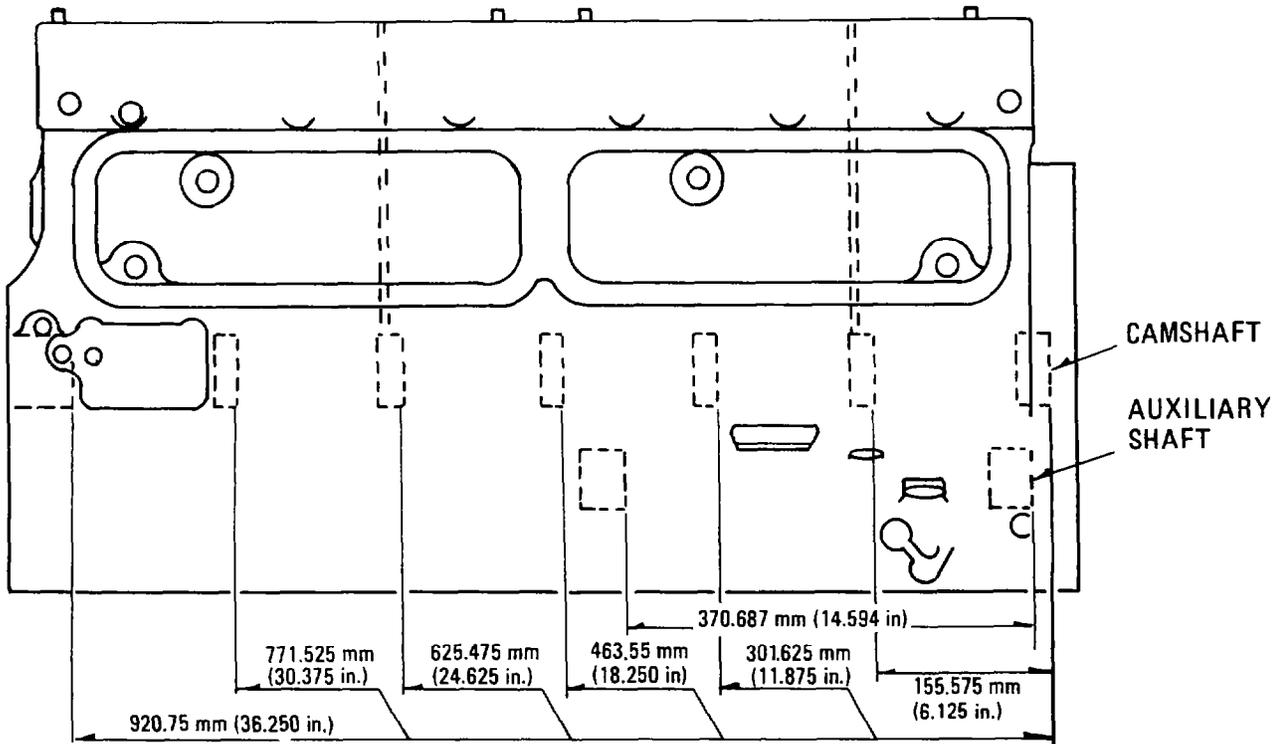

Fig. 59 — Camshaft Bearings — Installation Distances R.H. SIDE VIEW
- All the bearings must be installed so as to locate at set distances measured from the thrust washer mounting surface to the forward edge of the bearings (see fig. 59). The thrust washer must be removed when locating the bearings.
- NOTE: 1. The auxiliary shaft bearings must be installed so as to locate at set distances measured from the thrust washer mounting surface to the forward edge of the bearings. The thrust washer must be removed when locating the bearings (refer to fig. 59).